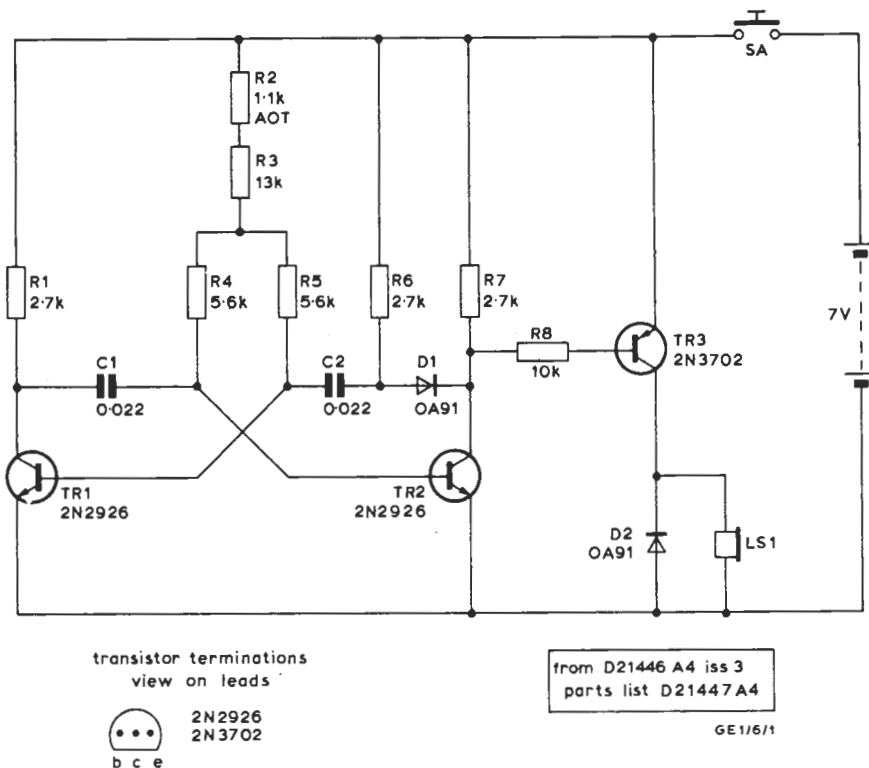

Fig. 1. Circuit of the GE1/6
**Circuit Description (Fig. 1)**
Fig. 1 is a circuit diagram of the GE1/6. The generator comprises a conventional astable multivibrator TR1 and TR2 followed by a common-emitter amplifier TR3. The loudspeaker coil forms the collector load of TR3. The generator is switched on by pushbutton switch SA. Power is drawn from a mercury battery which has a life expectancy of several years.